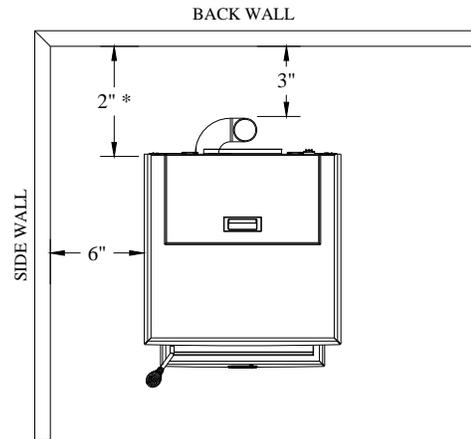

Figure 1
The ECO-35 has been tested and listed for installation in regular and mobile homes.(refer figure 1 & 2)
1. Position stove, adhering to clearances shown in Figures 1 & 2.
5. Position the stove, adhering to the clearances in Figures 1 & 2.